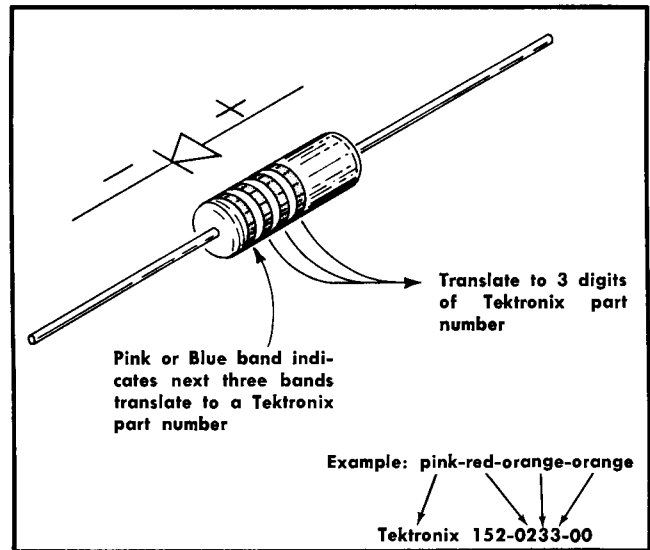

Fig. 4-2. Color code for diodes having Tektronix part number.
**Diode Color Code.** The cathode end of each glass-encased diode is indicated by a stripe, a series of stripes or a dot. For most silicon or germanium diodes with a series of stripes (the first stripe either blue or pink) the color code indicates the three significant figures of the Tektronix Part Number using the resistor color code system. Example: a diode color coded blue-brown-gray-green indicates a diode having Tektronix part number 152-0185-00. See Fig. 4-2. The cathode and anode ends of metal-cased diodes can be identified by the diode symbol marked on the body.